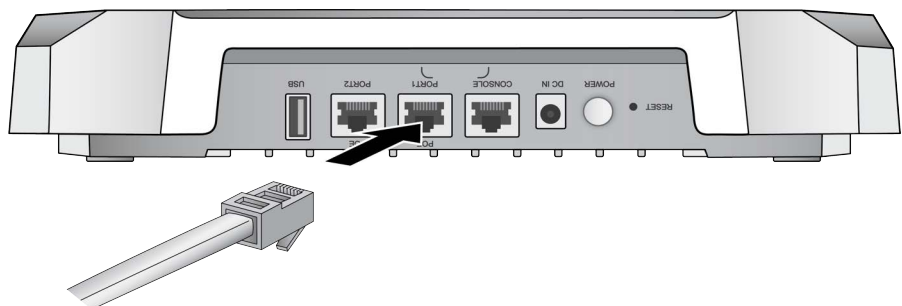

Figure 20. Connecting an Ethernet Cable to PoE LAN port
1. Connect an Ethernet cable into either PoE LAN port. The cable requirements are in “Cable Requirements” on page 19. Refer to Figure 20.